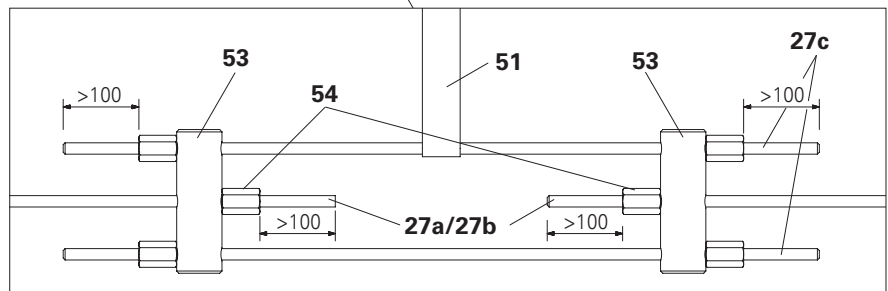

Fig. A7.05a
- Is the dimension of the 6 protruding tie rods (**27a / 27b / 27c**) in the tension system set > 100 mm? (Fig. A7.05a)